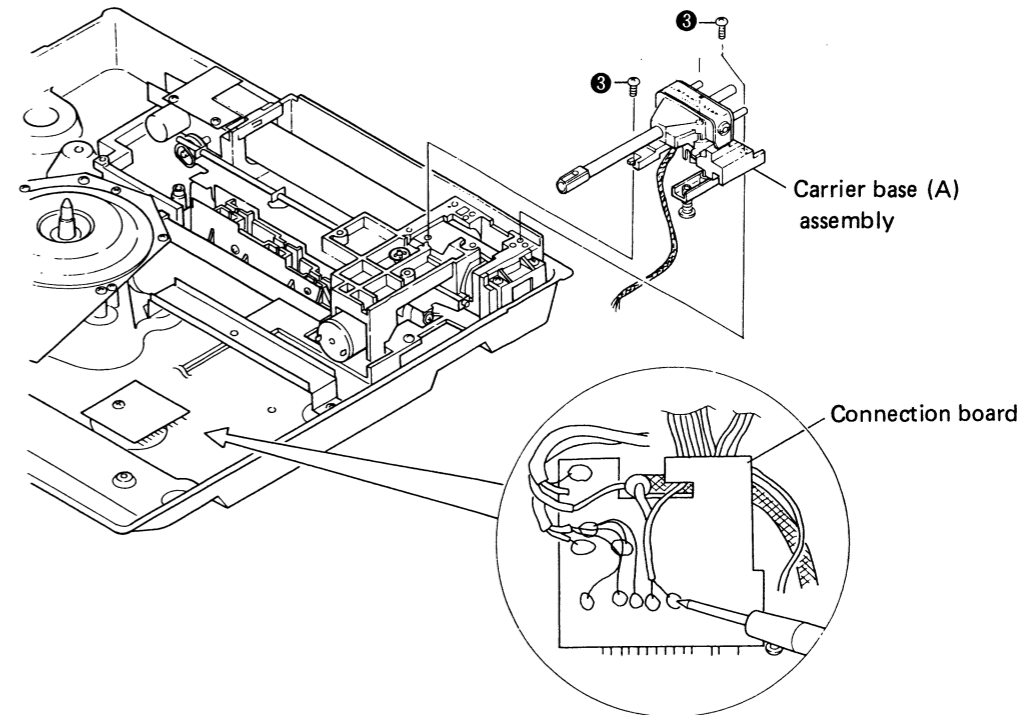

Fig. 3-6 Remove the tonearm 1
1. Disconnect the soldered lead wires connected to the connection board and tonearm. Then remove the tape around the dynamo, and undo the three screws ❸ securing the carrier base (A) ass'y to enable removal of that ass'y (Fig. 3-6).